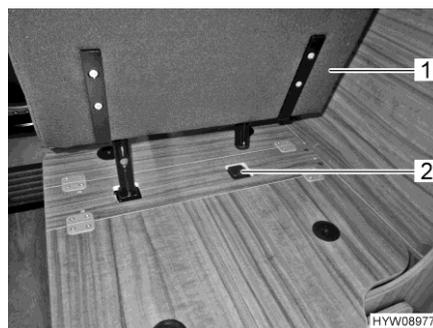

Fig. 22 Place the attachable seat in the holder
- Place the attachable seat (Fig. 22,1) in the holder (Fig. 22,2).